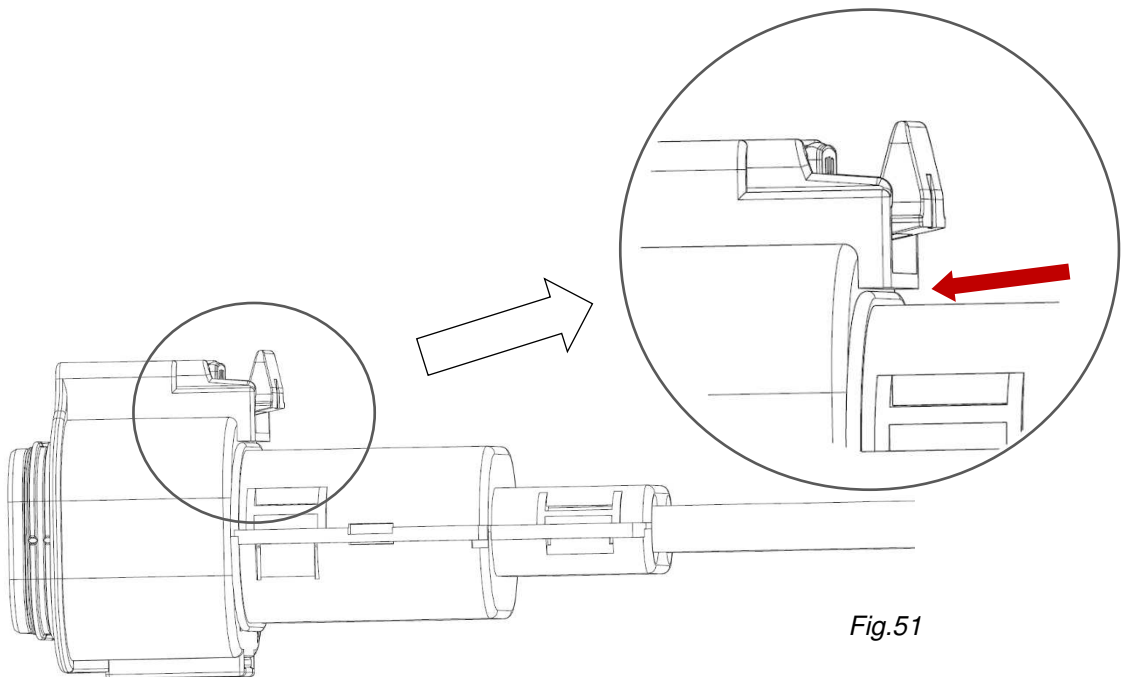

Fig.51
**Check correct position of the Covers. The final position should look like shown in Fig.51**